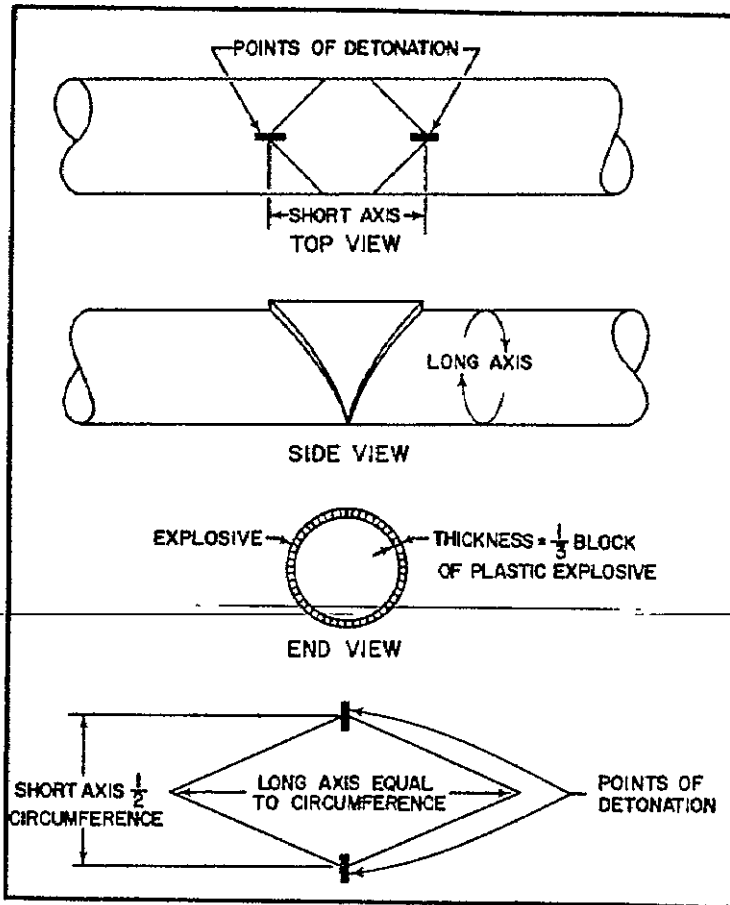

Figure 71. Diamond charge.
(2) Diamond charge. This charge can be used to cut hard or alloy steel, cylindrical targets of any size that would conceivably be encountered. It has reliably been used, for instance, against a destroyer propeller shaft of 43.18 cm diameter. Dimensions are as follows: the long axis of the diamond charge should equal the circumference of the target, and the points should touch on the far side. The short axis is equal to one-half the circumference. Thickness of the charge is 1/3 thickness of a block of C3 or C4. To prime the charge, both points of the short axis must be primed for simultaneous detonation. This can be accomplished electrically or by using equal lengths of detonating cord, with a nonelectric blasting cap crimped on the end that is inserted into the charge. As detonation is initiated in each point of the diamond and moves toward the center, the detonating waves meet at the exact center of the charge, are deflected downward, and cut the shaft cleanly at that point. The diamond charge is more time-consuming to construct, and requires both more care and more materials to prime. Transferring the charge dimensions to a template of cardboard or even cloth permits relatively easy charge construction (working directly on the target is extremely difficult). The completed, wrapped charge is then transferred to the target and taped or tied in place, ensuring that maximum contact is achieved. The template technique should be used for both the saddle and diamond charges. (See figure 71)